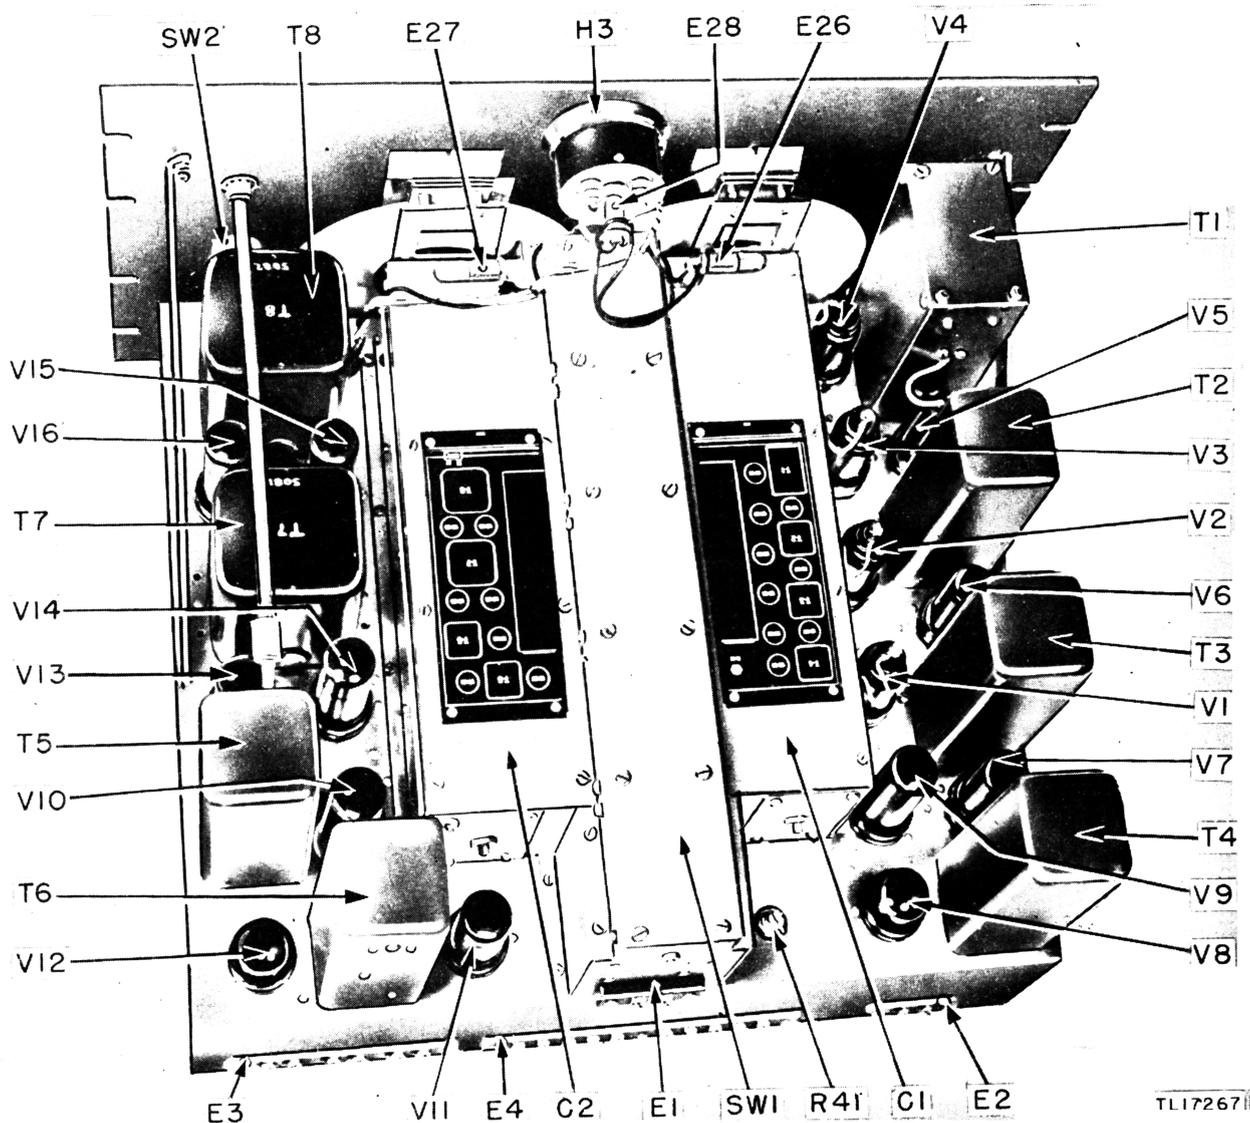

Figure 4. Top view of chassis.
#### 9. Removal of Tubes and Pilot Lights (fig. 4)
The dial lights (I1 and I2) are 6- to 8-v, 0.15-amp miniature screw base lights, and can be seen mounted in their sockets directly behind the tuning dials. The meter light (I3) is a 6- to 8-v, 0.15-amp miniature bayonet base type and is mounted into the S-meter. (See fig. 4 for placement of tubes.)
To provide smooth motion in moving parts, lubricants are not recommended. Binding posts may be polished or cleaned. The plunger arms in the phasing adjustment, figure 5, may be eased with a light coat of petrolatum, U. S. Army 2-67A. This same procedure may be used on the plunger shafts in transformers T2, T3, and T4, see figure 4.
d. REPLACEMENT OF TUBES. When resistance measurement requirements have been properly met, replace the tubes in their proper sockets. See figure 4 or the location diagrams riveted to the top of the tuning unit.